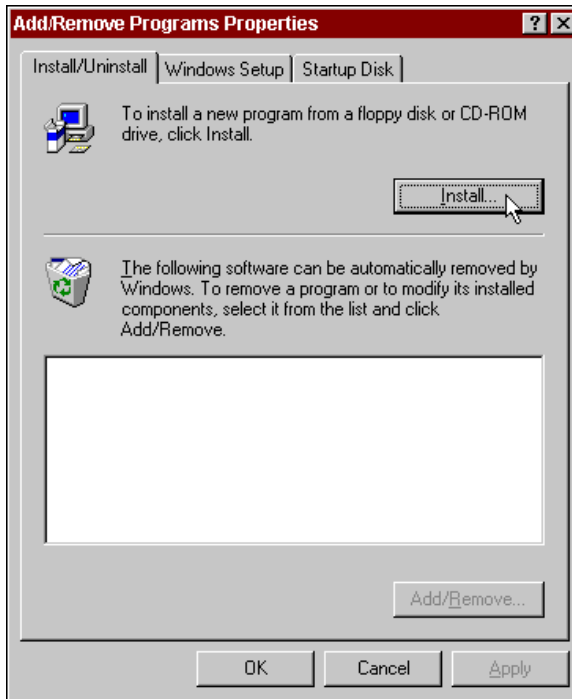

Figure 1. Add/Remove Programs Properties Dialog Box
2. Double-click on the **Add/Remove Programs** icon in the Control Panel to launch the Add/Remove Programs applet. A dialog box similar to the one in Figure 1 appears.